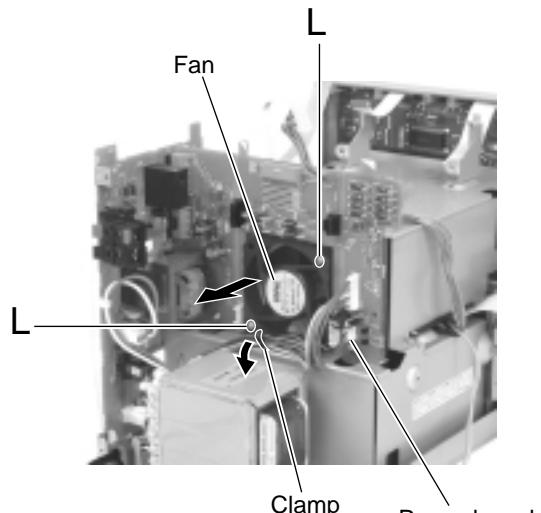

Fig.20
■Removing the fan (See Fig.20)